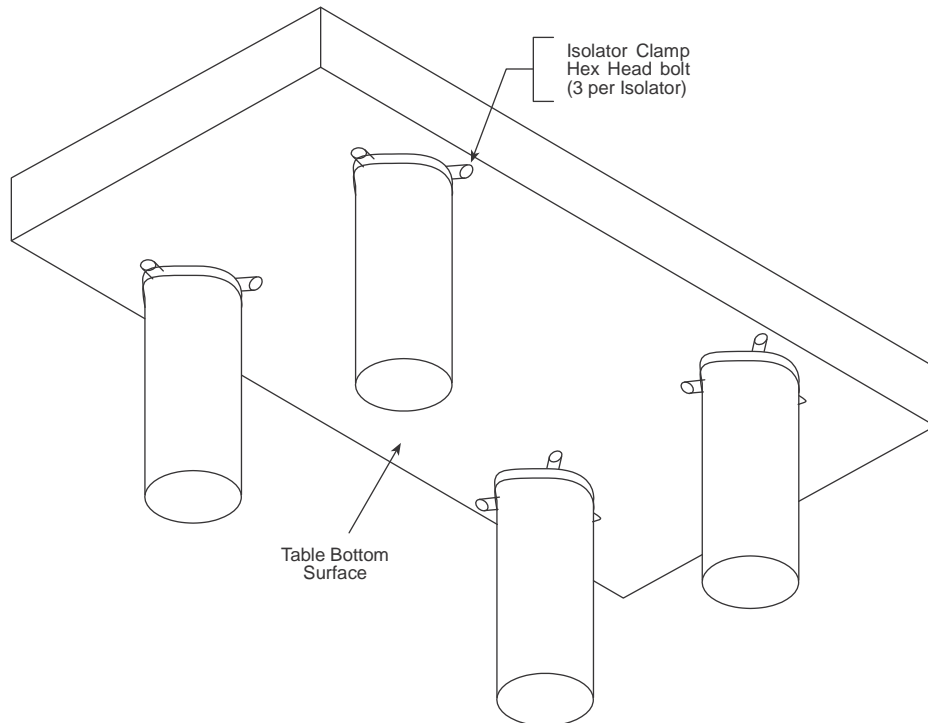

Figure 2 – Isolator Clamps and Mounting Holes
- A. With the isolators located as described, raise the table top and position it above the isolators. Be sure each isolator is centered within the tapped three-hole pattern on the lower surface of the table (Figure 2).